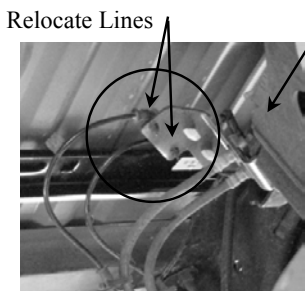

Figure 2a
- 2a. Use the provided cable tie to relocate the lines connected to the bracket on the driver's side of the vehicle, shown in Figure 2a.